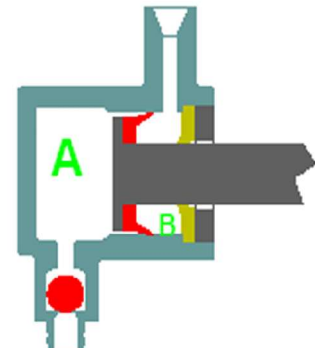

Fig. 3: D-force 1 head function
D-force head function is shown on Fig. 3. During the first stage of piston stroke (backward movement) is the liquid sucked through input valve to the front part of the head cylinder (A). Liquid present in back part B is in the same time expelled from cylinder back space (B) to the system.